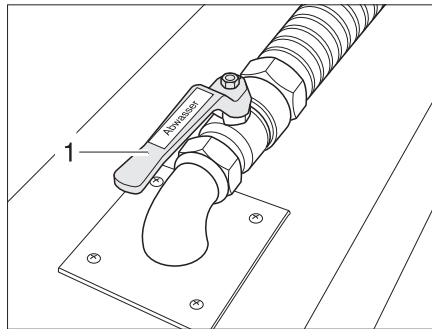

Fig. 338 Waste water tap
The waste water tap (Fig. 338,1) is fixed in the double floor. The waste water tap is black and is labelled with the word "Abwasser" (waste water).
- Open the waste water tap (Fig. 338,2). The waste water will run out.